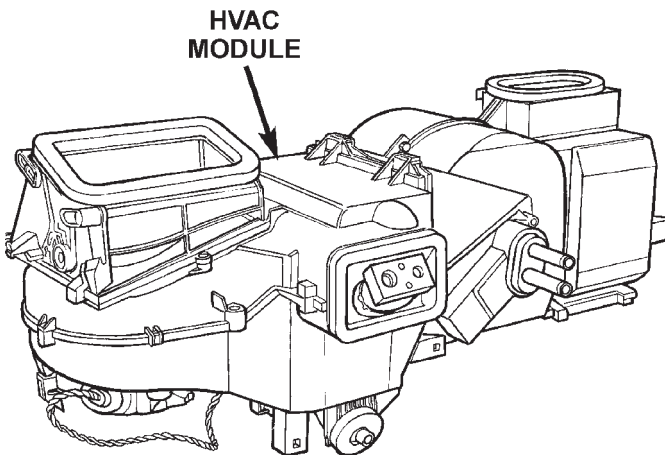

Fig. 35 A/C Housing
(2) Remove A/C housing from vehicle (Fig. 35). Refer to Heater-A/C Housing Removal and Installation in this section for procedure.